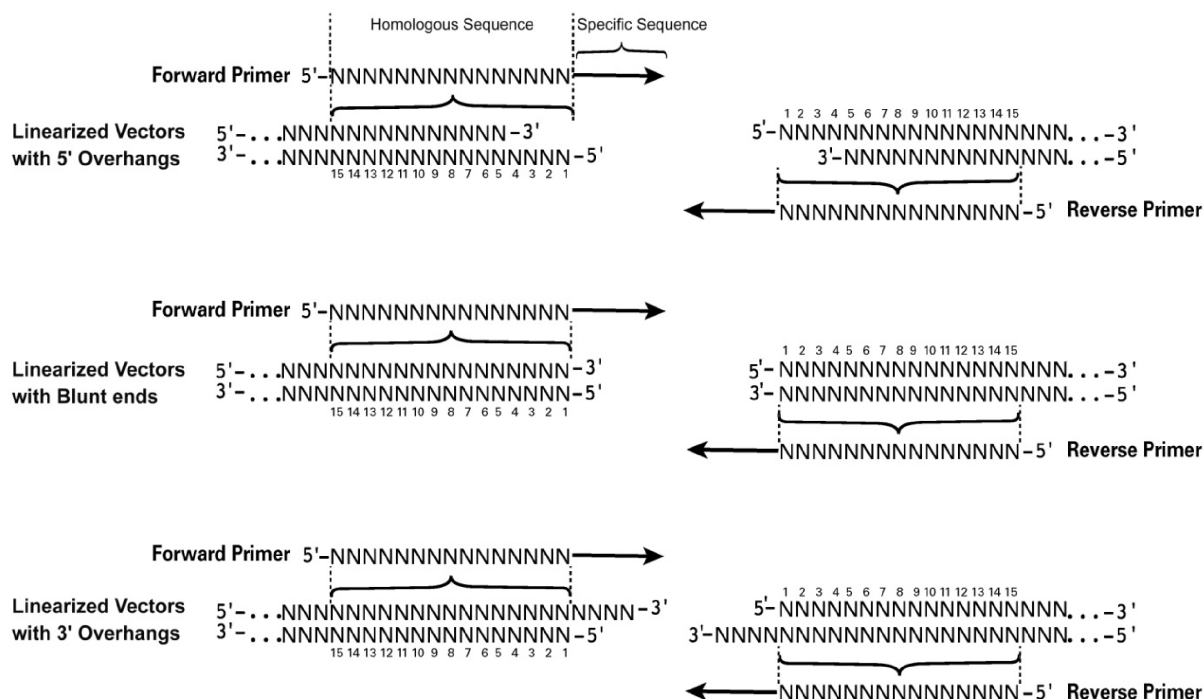

Fig.3. Primer with 15 bp homology in different vector ends.
- (1) Each Fast-Fusion primer consists of two parts: 1) A sequence at the 5'-end that is homologous to one end of the target vector or another insert, and 2) a gene-specific sequence at the 3'-end that will specifically amplify the target insert (Fig.3, 4).